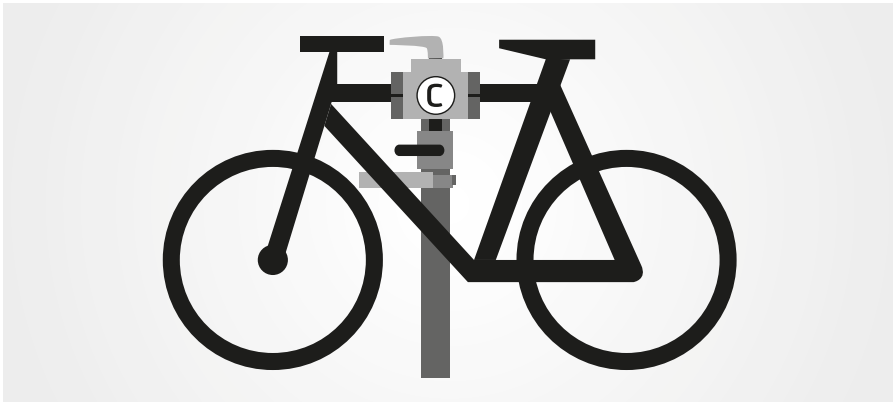
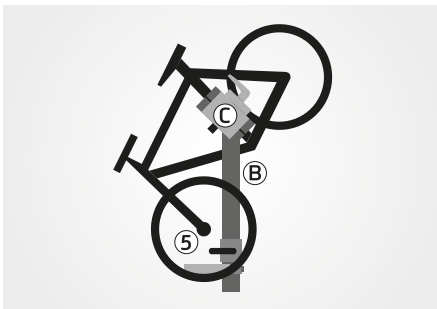

Fig. 1
Fig. 2
- Do not extend the horizontal clamp bar farther than showing in **Fig 1**.
- Choose your clamping position on the bike to get as even a balance as possible to avoid straining the clamp and to avoid tipping. (See comparison of **Fig 1** and **Fig 2**).